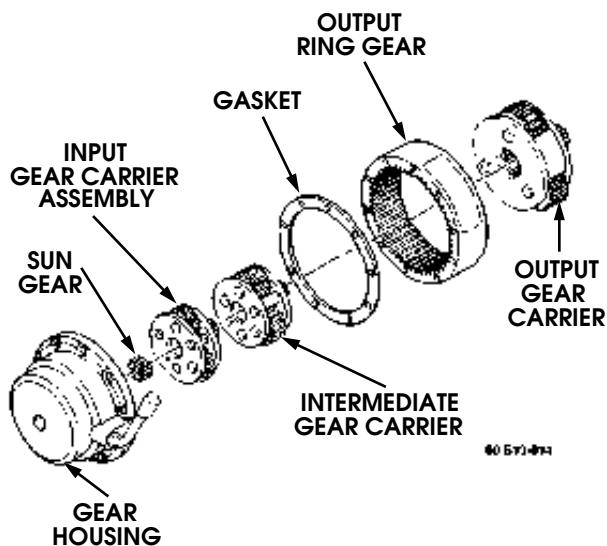

Figure 9-199: Gear Carriers
6. Apply aircraft grease to output gear carrier, intermediate gear carrier, and input gear carrier assembly (Figure 9-199).